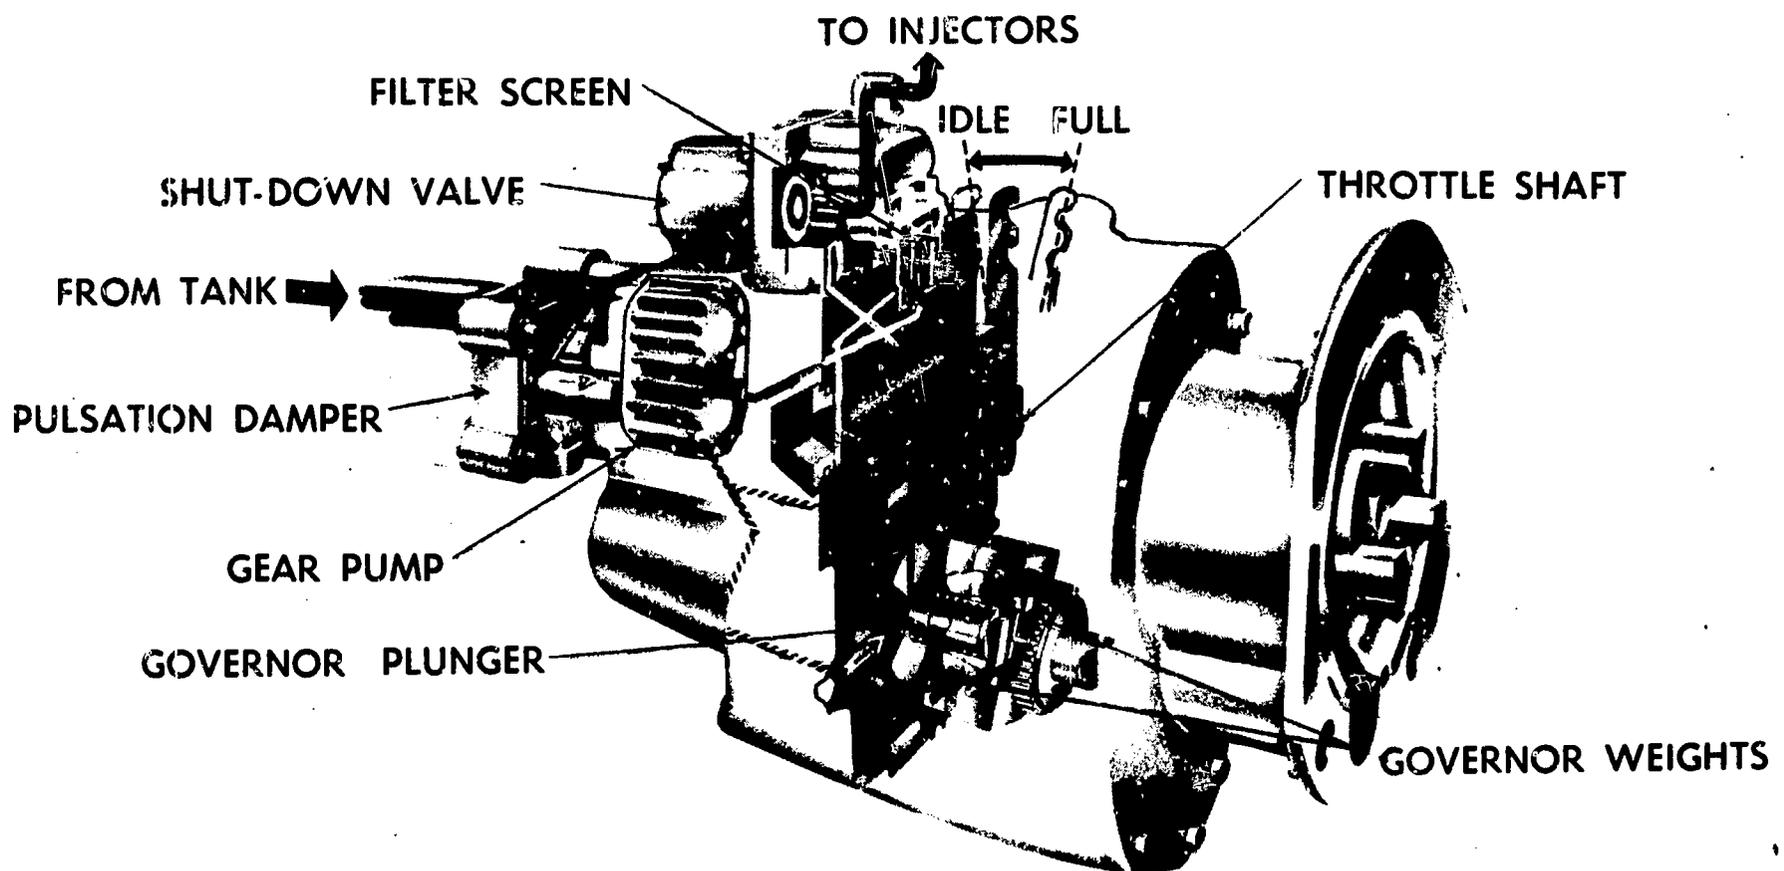

Fig. 6 Fuel flow through PTG fuel pump.
2. In the PTG pump, to the governor assembly as shown in Figure 6.